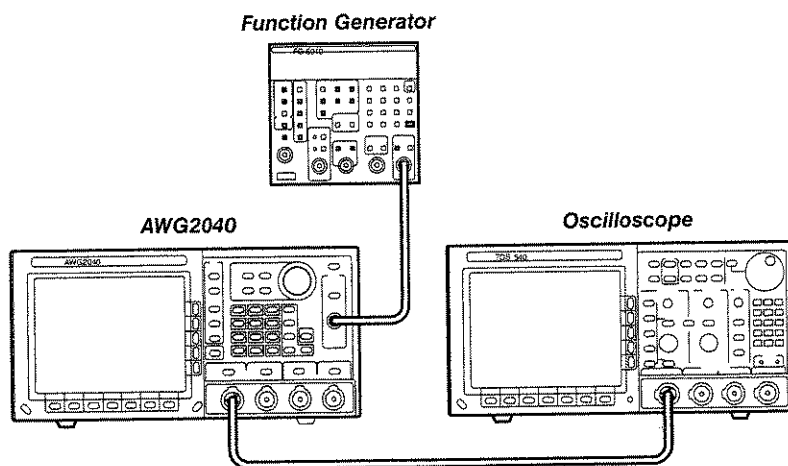

Figure E-5: Triggered Mode Initial Test Hookup
- Connect the AWG2040 TRIGGER INPUT connector through a coaxial cable to the function generator output connector (see Figure E-5).